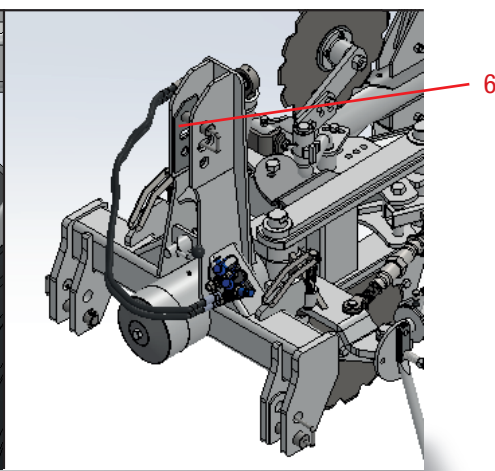

Figure 3
- Head fixing spindle in Figure 3 is turned from the working position to the locking position by turning the head 180 °.
- Head fixing spindle in Figure 3 is turned 180 ° from working position to locking position.